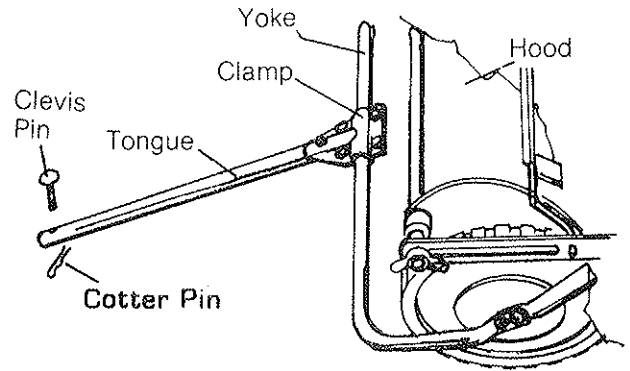

Figure 6
- Fig. 6 - Place the 2 Clamps around the Yoke and fasten together loosely with (4) $\frac{1}{4}$ -20 x $\frac{5}{8}$ Hex Bolts and (4) Hex Lock Nuts. Now insert the Tongue between the (2) Clamps and use the $\frac{1}{4}$ -20 x $1\frac{1}{2}$ Bolt and Lock Nut to fasten to the (2) Clamps. Be sure the dimple in the Clamp is over the dimple in the Yoke, then tighten all Lock Nuts. Place the Clevis Pin thru the Tongue then insert the Cotter Pin in the Clevis Pin.